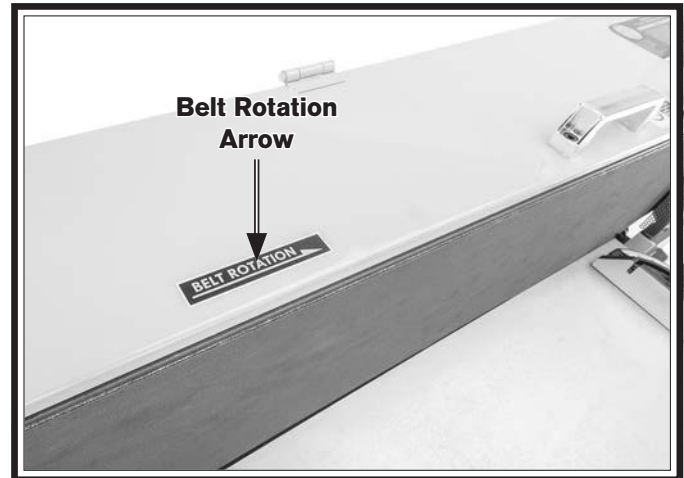

Figure 31. Sanding belt rotation arrow.
- Remove old sanding belt and replace with new one, being sure arrows on belt match arrows of belt rotation on machine (see **Figure 31**).